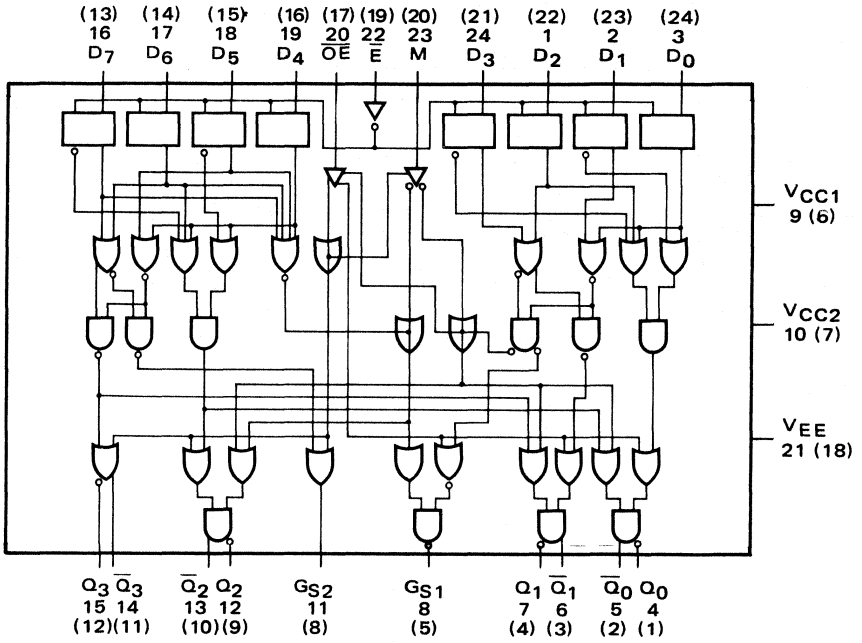

Fig. 2 Logic diagram. Pin numbers of SLIM CERDIP package are between brackets.
- Pin numbers shown are for flat pack, for slim cerdip package see Fig. 2.